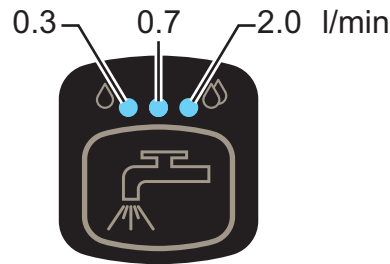

Figure 3
10. Adjust the detergent flow by pressing the push-button (43) as necessary, depending on the type of cleaning to be performed. When the LED is on, it indicates the value in litres per minute of solution flow supplied, as shown in the Figure 3. When the LEDs are off, the solution flow is stopped.